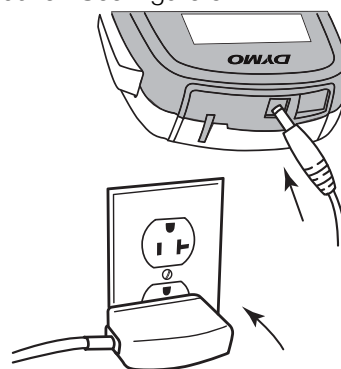

Figure 3
- 2 Plug the other end of the charging adapter into a power outlet. See Figure 3.